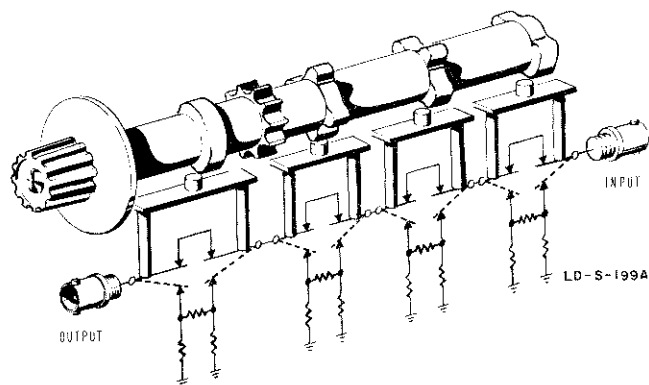

Figure 2. Arrangement of Model 355C/D Attenuator
2. The unit is compact, rugged, and well-shielded. The design, indicated in Figure 2, has resulted in an accurate and convenient attenuator with excellent electrical characteristics. The drive mechanism, controlled from the front panel, is a single rotary shaft which mounts four cams. The cams drive eight